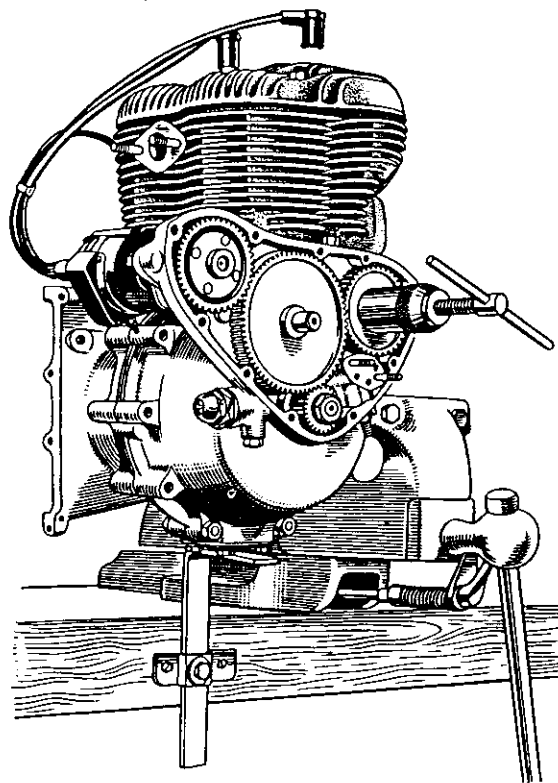

Fig. 8. To Hold the Engine.
- (2) Take off the two securing nuts and slide the oil pump off its studs.
- (3) Unscrew the crankshaft and camshaft nuts. Note that the camshaft nut has a L.H. thread and the crankshaft nut a R.H. thread.
- (4) Magneto automatic timing device (A.T.D.) (Mk. 1 and 2). The magneto pinion has a special self-withdrawing nut with a right-hand thread. First, loosen the nut until the inner shoulder comes up against the outer face. If the nut is now turned further with a slow firm movement, the A.T.D. gear-wheel will be drawn off the taper. Distributor drive pinion (Mk. 2B coil ignition). Remove the circlip from the drive pinion boss groove, which retains the pin locking the drive pinion on the shaft. Remove the pin and the drive pinion and the steel thrust washer.
- (5) The camwheel is keyed on to a parallel shaft and an extractor is required to draw it off the shaft (Fig. 8). Screw the extractor on to the external thread on the camwheel and then screw in the extractor handle to withdraw camwheel.
- (6) Slide the intermediate wheel off the spindle.
- (7) Using the crankshaft pinion extractor remove the pinion in the same manner as instructed for the camwheel. See approved Special Tools, page 35).